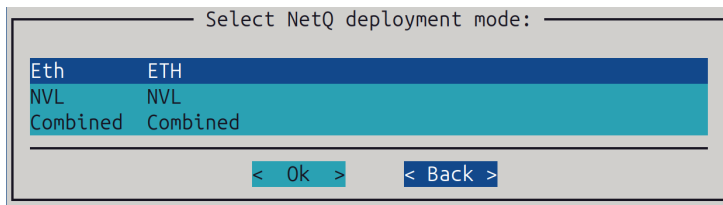

Figure 2.8: NetQ deployment: setting the NetQ deployment mode
8. The NetQ deployment mode is set (figure 2.8):